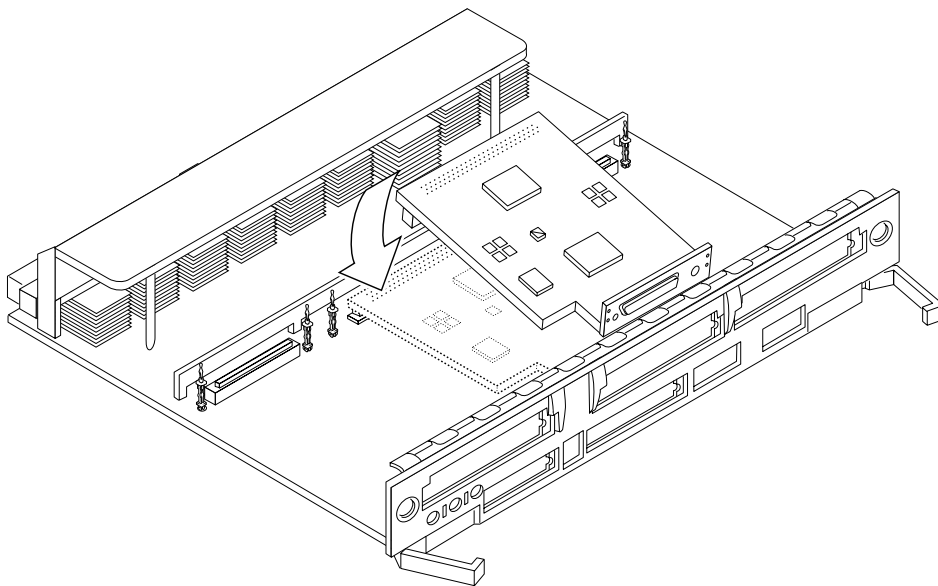

FIGURE 4-16 Removing or Installing a Graphics (UPA) Card
6. Lift the card from the socket at an angle while guiding the face plate out from the front panel opening (FIGURE 4-16).
8. Hold the card at an angle as depicted in FIGURE 4-16 on page 4-19. Guide the card face plate under the springfingers and against the rear face of the Graphics+ I/O board front panel.